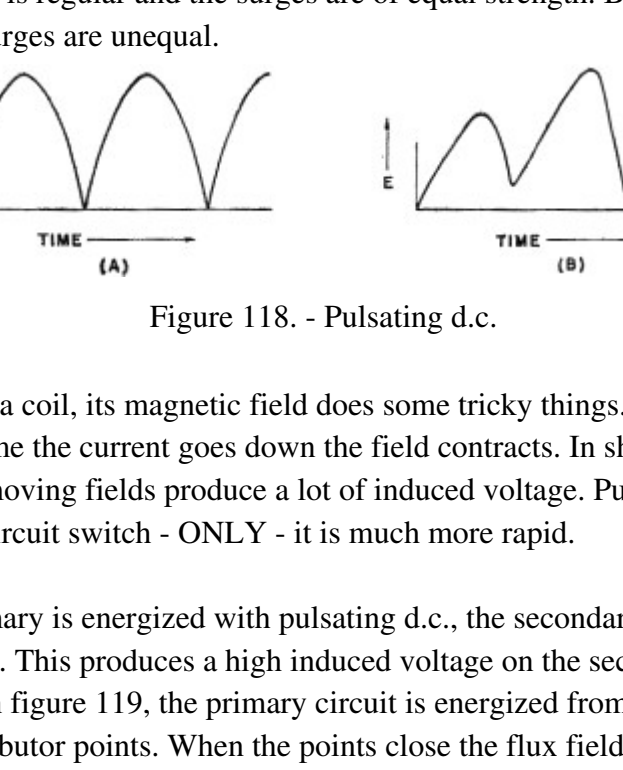
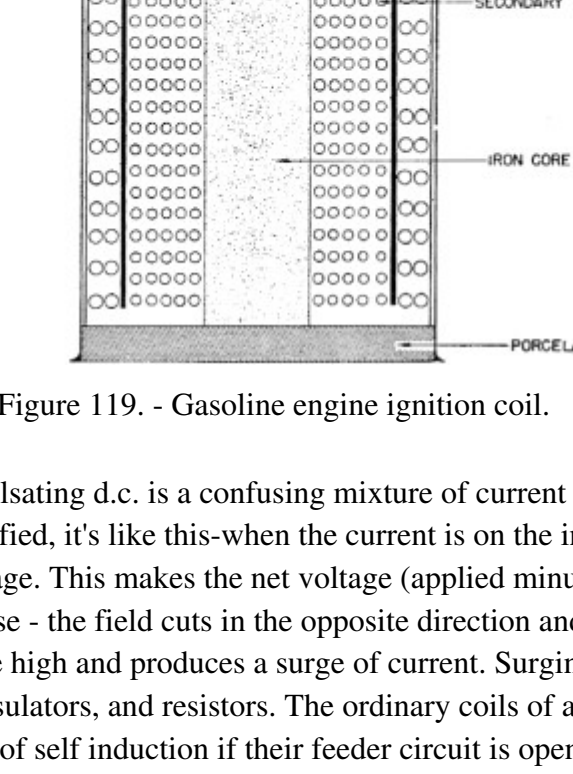
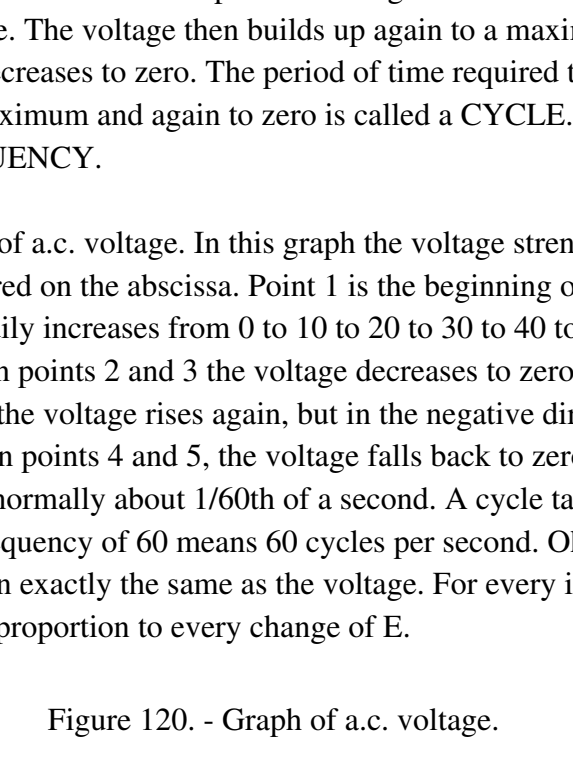

Figure 115. - Self induction circuit.
Figure 116. - Self induction in one turn.
Figure 117. - Self induction - cross-section.
There are only three items required to generate an induced voltage - (1) a conductor, (2) a magnetic field, (3) motion between the conductor and the field. These three items give you LINES OF FORCE CUT BY A CONDUCTOR. Look at figure 115 - are these three items present in this circuit?
Figure 116 shows an enlargement of two turns of the coil in figure 115. Flux is pictured blossoming out, from one of the turns. Notice how these lines are cut by the next turn. Now, applying the generator hand rule, determine the direction of the induced voltage. It's easier to use the rule on a cross-section of the coil like figure 117. Flux direction is down (first finger). Motion is to the RIGHT (thumb). (ATTENTION - the flux is moving across the conductor to the LEFT - the effect is AS THOUGH THE CONDUCTOR WERE moving to the RIGHT). Induced voltage is OUT (middle finger). It means exactly what it says-the induced voltage OPPOSES the flow of current.